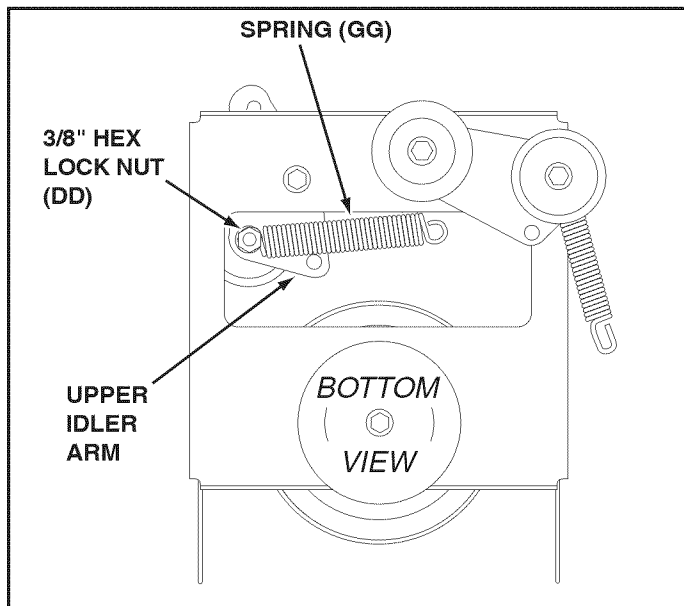

FIGURE 16 VIEWED FROM BOTTOM
STEP 16: (SEE FIGURE 16)
- Hook the end of the spring (GG) onto the bottom of the bolt and nut which secure the idler pulley to the upper idler arm. Hold the bolt head and assemble a 3/8" hex lock nut (DD) onto the bolt, leaving enough space for the spring to pivot freely between the two nuts.